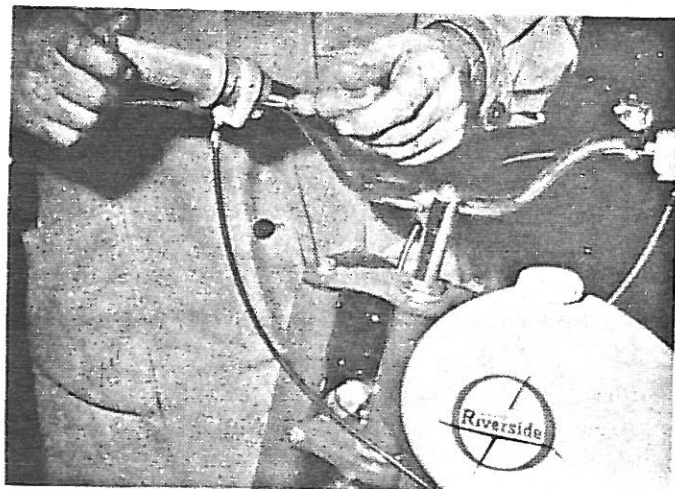

fig. 10
- f. Push the left grip as far on as it will go. Position it so that the brake lever is directly in front of the grip and the grip and the lever are in a horizontal plane. Tighten as shown. (Fig. 10).
- g. Position the right grip like the left grip and tighten. Position the horn, light and motor switch assembly as shown and tighten. (Fig. 10).